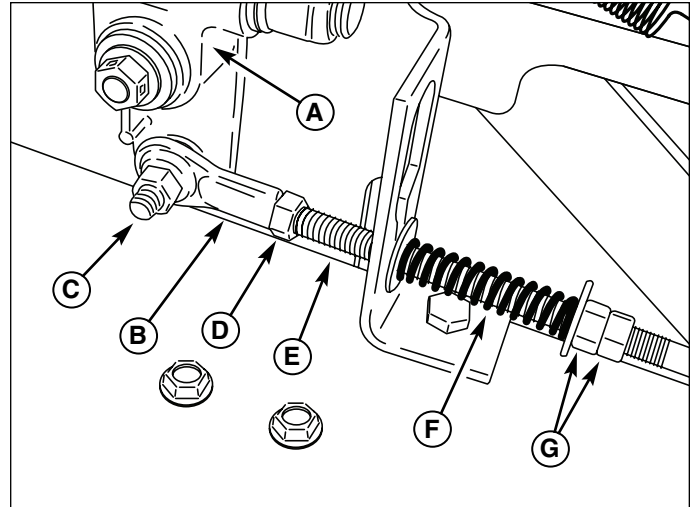

Figure 10. Neutral Adjustment (Right Side Shown)
3. Remove the hardware (C, Figure 10) connecting the rod end (B) to the control bracket (A).